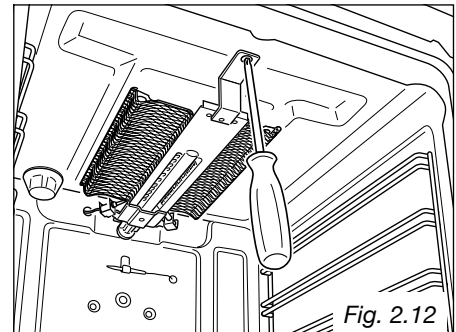
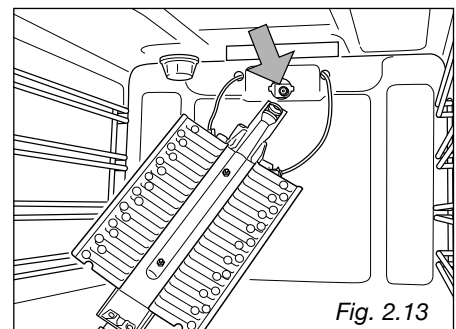

Fig. 2.12
Fig. 2.13
- Remove the burner by unscrewing the front screw (fig. 2.12). Gently suspend the burner as shown in figure 2.13. Be careful not to damage the wire of the electric ignition and the probe of the safety valve.
- Using a 7 mm box spanner, replace the injector (indicated by the arrow in fig. 2.13) by the proper one according to the kind of gas.